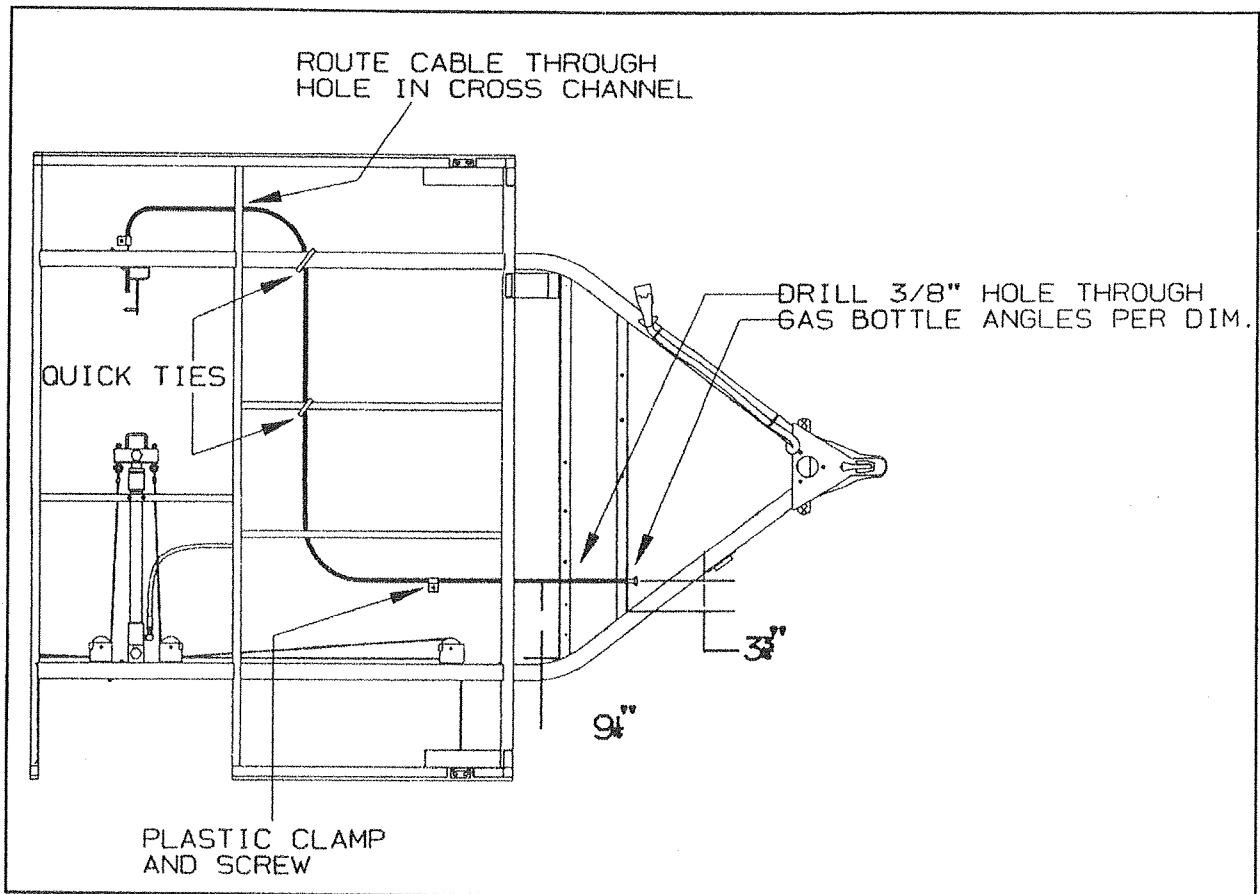

Figure 1
3. Using a ruler or tape measure, measure 3 3/4" from the inside edge of the curbside main frame bar along the vertical edge of the front gas bottle angle. Place a mark on the gas bottle angle at this point. Using this mark as a reference point, make a second measurement 3/8" down from the top edge of the gas bottle angle and intersect the two marks. See figure 1.
14. Route the remaining cable under and through (where applicable) the trailer frame. If necessary, space the two plastic clamps and nylon ties as shown in figure 1. Secure the plastic clamps to the trailer floor with the two 5/8" wood screws provided. Refer to figures 1 and 2.